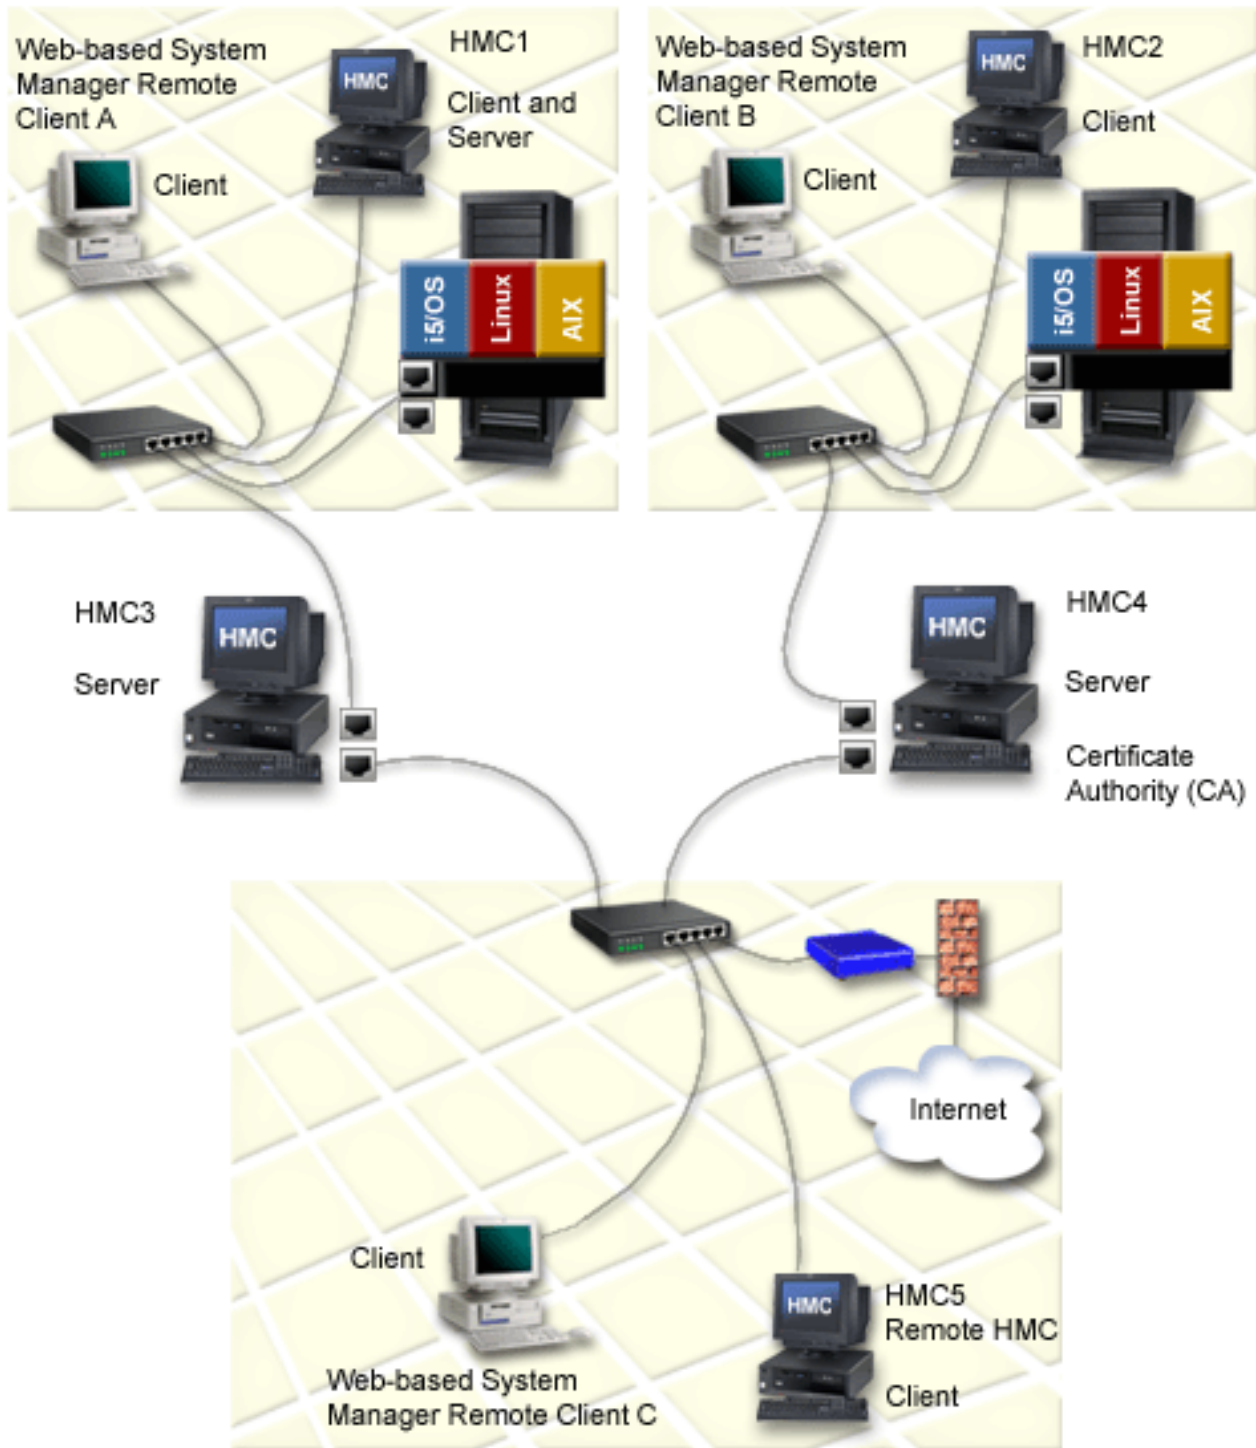

Figure 6. System Manager Security servers and clients
A **Certificate Authority (CA)** is a trusted central administrative entity (a local HMC in this situation) that can issue digital certificates to clients and servers (HMC4 in Figure 6 on page 20). The trust in the CA is the foundation of trust in the certificate as a valid credential. A CA uses its private key to create a digital signature on the certificate that it issues to validate the certificate's origin. Others, such as System Manager clients, can use the CA certificate's public key to verify the authenticity of the certificates that the CA issues and signs.
A **server** is a an HMC you want to access remotely. In Figure 6 on page 20, HMCs 1, 3, and 4 are servers. A **client** is a system from which you want to access other HMCs remotely. In Figure 6 on page 20,
Web-based System Manager Remote Clients A, B, and C, and HMCs 1, 2, and 5 are clients. As shown in Figure 6 on page 20, you can configure multiple servers and clients in your private and open networks.
An HMC can be multiple roles simultaneously. For example, an HMC can be a client and a server such as HMC1 in Figure 6 on page 20. An HMC can also be a CA, server, and client at the same time.